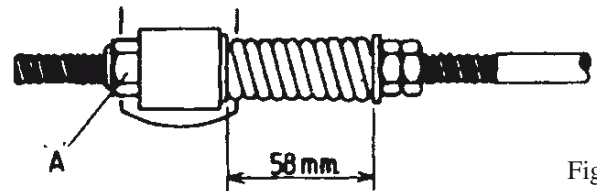

Fig. 20
6. Adjust locknut 'A' in *Fig. 20* to give Cutter Engagement Lever a free travel of 30mm, from bottom of slot in *Fig. 18*
3. Adjust the tension on the spring using the lock nuts to give length of 58mm. *Fig. 20*